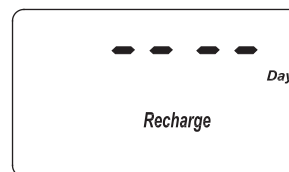

FIG. 30
1. Press and hold the PROGRAM button until the screen in Figure 29 is displayed. Once in this display, press the PROGRAM button four times and the display in Figure 30 is shown.